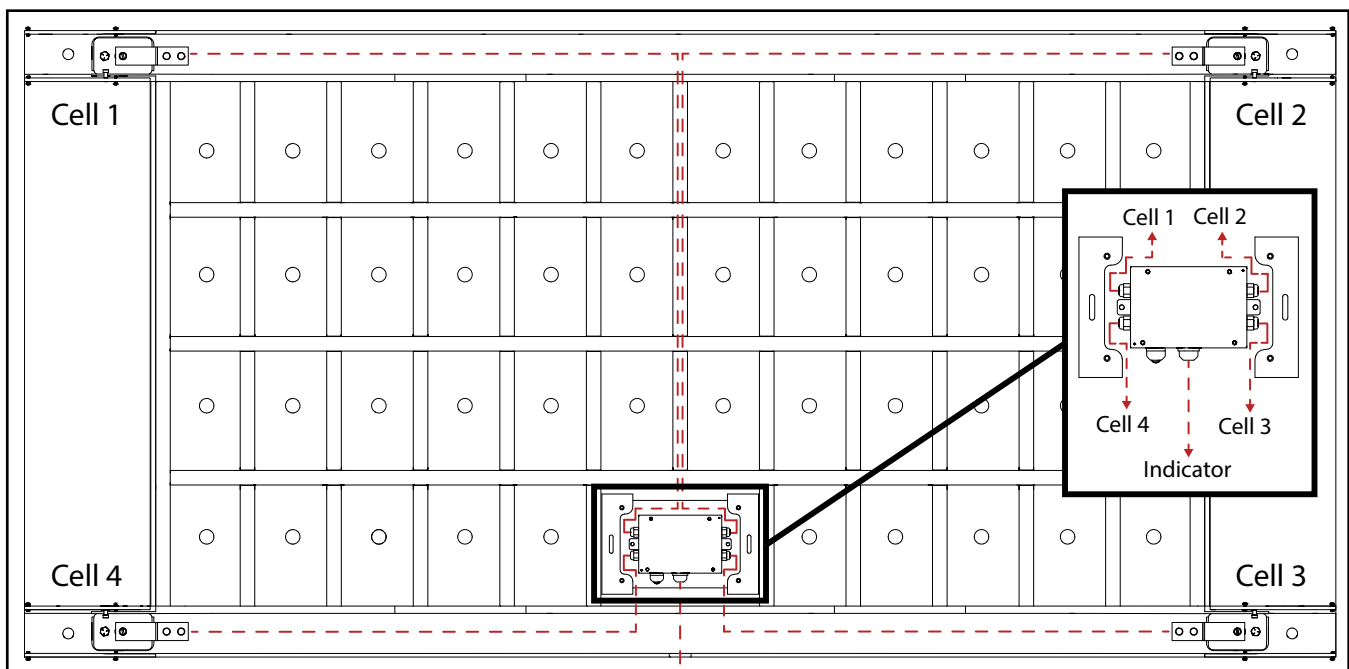
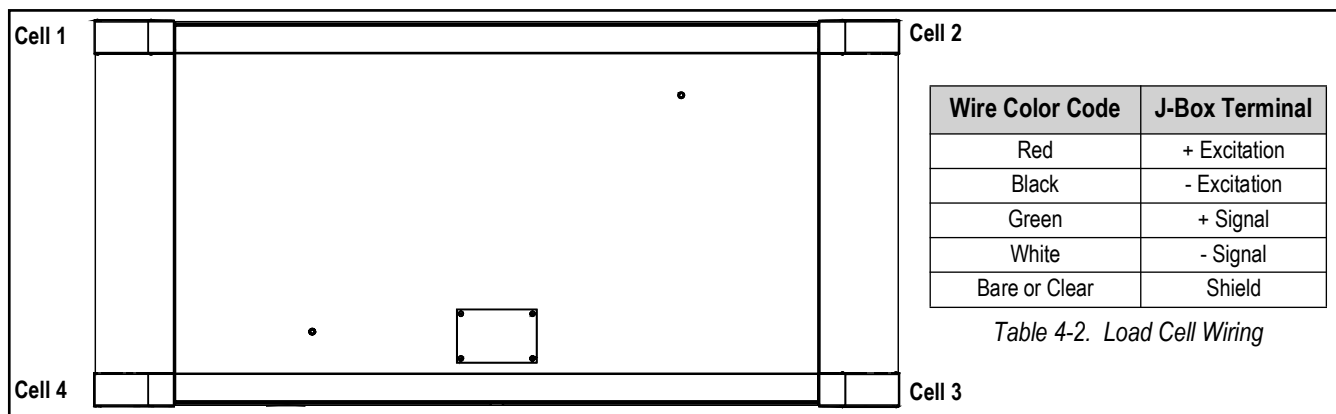

Figure 4-6. Inside View of Scale
Figure 4-8. Corner Numbering - Top View
13. Route cable from load cell through the channels in the frame and to the junction box according to the wiring diagram in Figure 4-6.
NOTE: In Figure 4-6 both the deck internals and junction box are viewed from the top. To match load cell and junction box terminals, see numbers on the terminals inside the junction box and the corner numbering diagram (Figure 4-8).
20. Connect each RL32018 load cell to terminals in the junction box according to corner numbering shown in Figure 4-8.